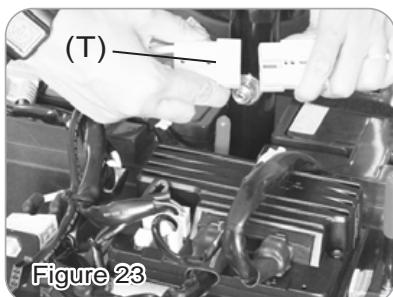

Figure 23
Unplug both Battery Cables (T) and remove the Batteries (U). (See Fig. 23 & 24).